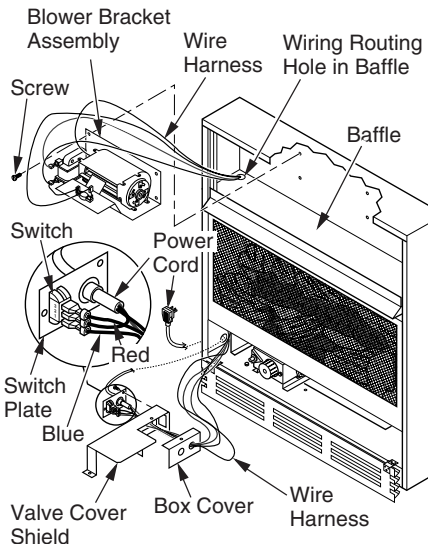

Figure 17 - Installing Blower Bracket Assembly
3. Note the wire locations on back of AUTO/OFF/ON switch. The terminals on back of switch are numbered 1, 2, and 3. Carefully remove red wire from terminal 1 and blue wire from terminal 3. Black wire can remain on middle terminal 2 (see Figure 17).
6. Route the wire harness through the hole in left side of baffle. Pull wire harness through lower opening above where the valve shield was removed. (see Figure 17).
7. Insert the 4 wire harness into one of the round holes in the rear of the valve cover shield and through the rectangular hole in the front of shield (see Figure 17).
9. Install the switch plate on the valve cover shield with 2 #10 screws provided (see Figure 17). Reinstall the valve cover shield. Route power cord out of the cabinet by inserting it through the bushing on the outer casing (see Figure 17). Plug fan kit into 120-Volt grounded power supply and test operation.